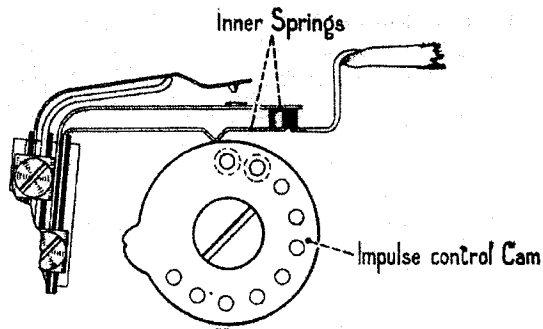

FIG. 28. CHECKING CONTACT PRESSURE
18. The total pressure exerted by the two inner springs on the auxiliary impulse-control cam, when the latter is off-normal, should be 5 gm. minimum to 10 gm. maximum. The point of application of the gauge is shown in Fig.28.